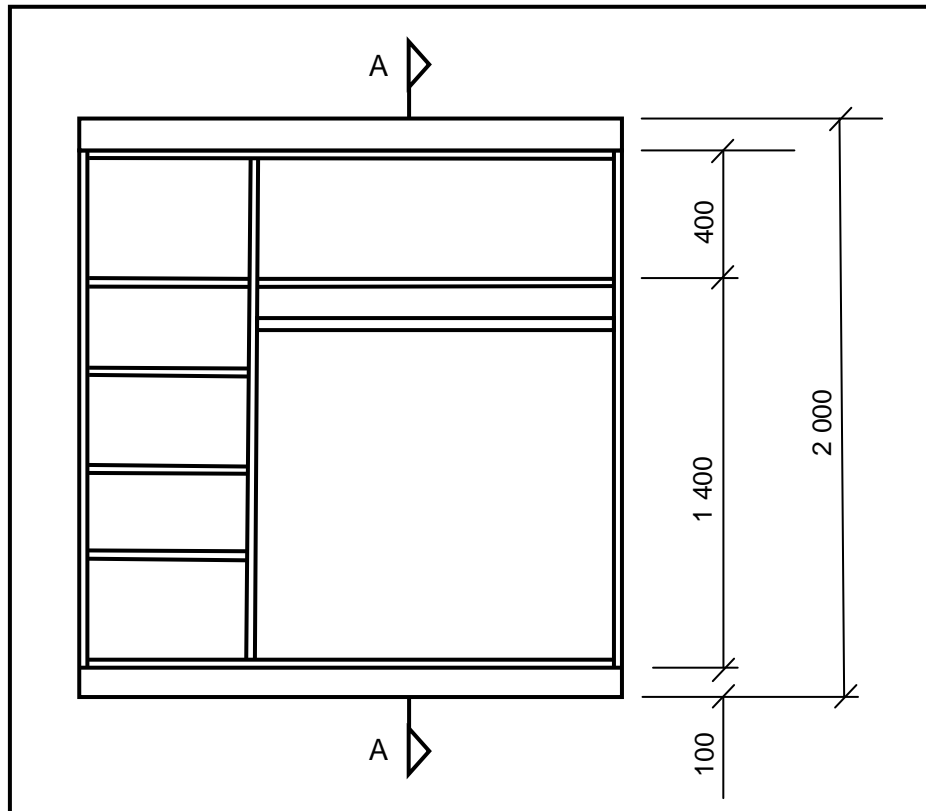

FIGURE 3.3
- 3.3 FIGURE 3.3 below shows the front view of a built-in cupboard without the doors. Use ANSWER SHEET 3.3 and draw a vertical sectional view of the cupboard to scale 1 : 10.